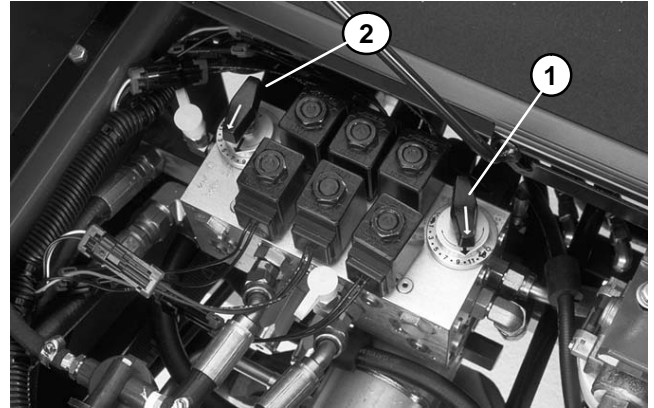

Figure 30
4. Set both reel speed controls to position 11 (Fig. 30).